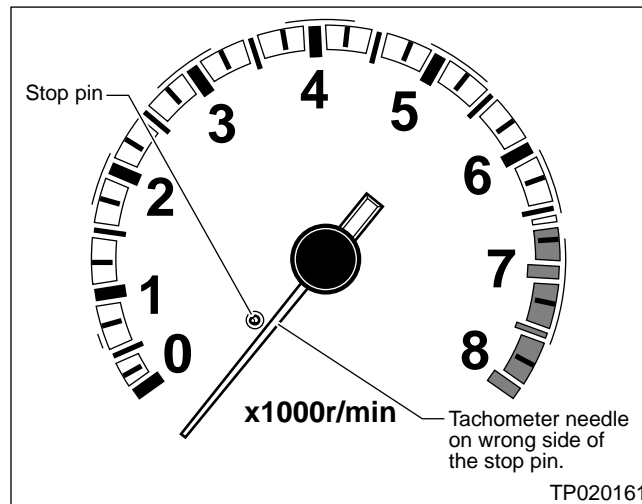

Figure 1
- The Tachometer Needle is on the wrong side of the stop pin (see Figure 1),